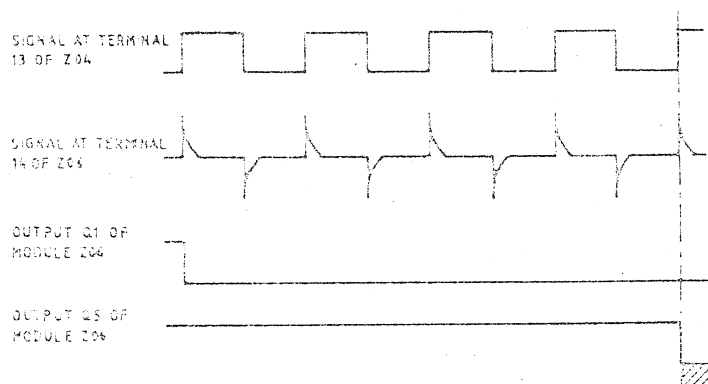

Fig. 16 Enabling with Even Setting of 100 kHz Selector
- 124 Figure 16 shows the waveform of the signals appearing at the Q1 (pin 5) and Q5 (pin 13) outputs of counter module Z06 for an even setting of the 100 kHz selector.
- 125 It can be seen from Figure 16 that NOR gate 2 of module Z03 is enabled (logic '0') between the 5th and 6th clock pulses.